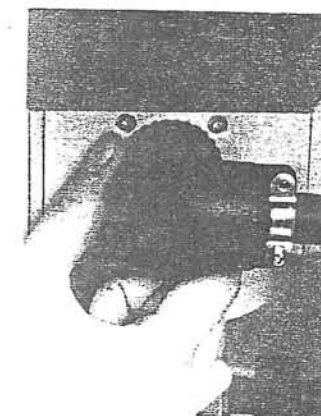

Fig. 6
1. Connect the main unit connector and the power control unit connector using the 24-core cable, after making sure of the pin configuration and key direction. (Fig. 6)